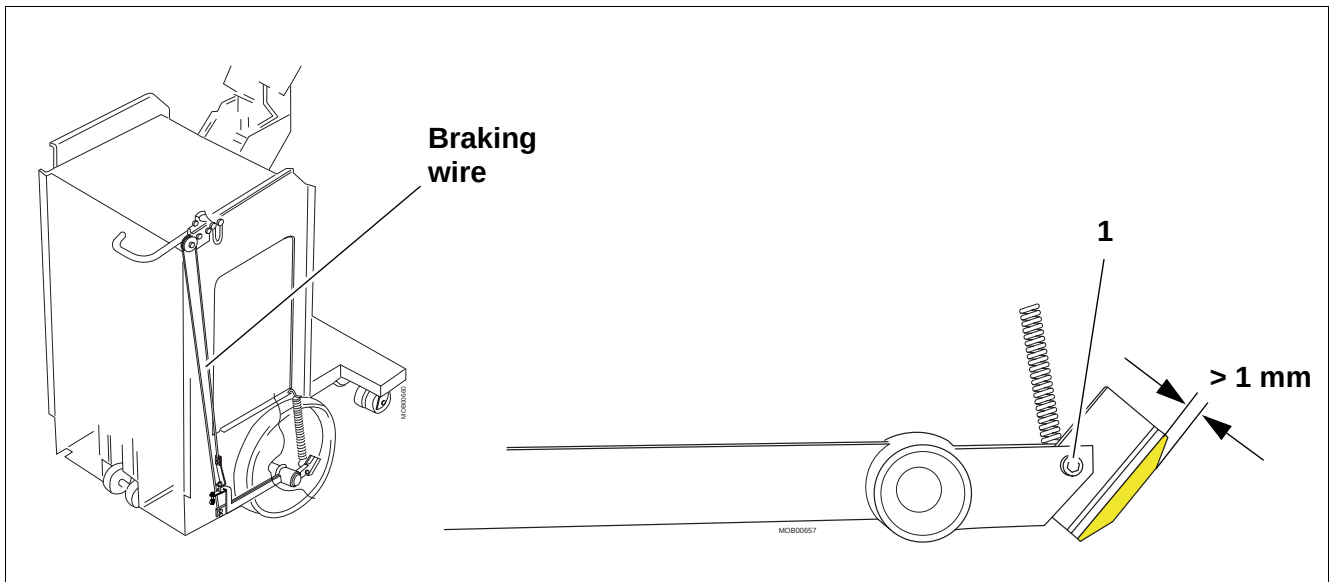

Fig. 22
- Check the brake linings. If the brake linings are thinner than 1 mm, they must be replaced (Fig. 22).
- Remove the old lining by loosening the screw (pos. 1 / Fig. 22).